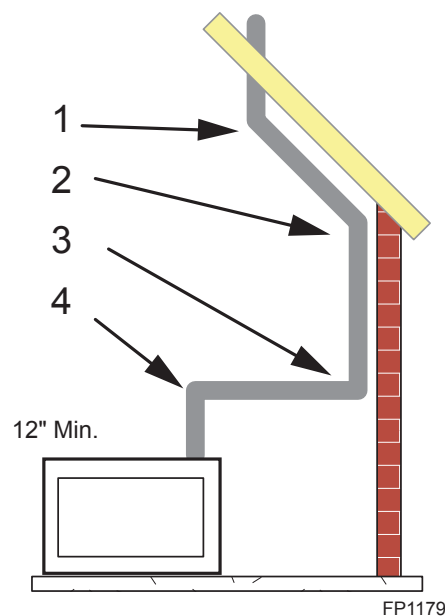

Figure 21 - Maximum Elbow Usage
- Two sets of 45° elbows offsets may be used within the vertical sections. From 0 to a maximum of 8' (2.5 m) of vent pipe can be used between elbows. Figure 21
- The maximum angular variation allowed in the system is 270°. Figure 21
NOTE: Pay special attention to these installation instructions for required clearances (air space) to combustibles when passing through ceilings, walls, roofs, enclosures, attic rafters, etc. Do not pack air spaces with insulation. Also note maximum vertical rise of the venting system and any maximum horizontal offset limitations. Offsets must fall within the parameters shown in Figures 21 and 22.